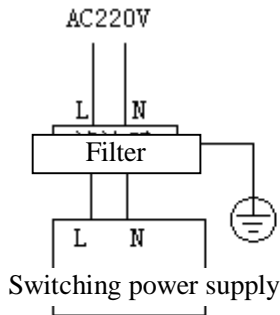

Fig. 1-4
- 1: Keep the machine tool away from equipment that may cause interference (e.g. frequency inverter, AC contactor, static generator, high voltage generator and section device of power lines). At the same time, connect the switching power supply to the filter separately to improve the interference resistance of the machine tool (see Fig. 1-4).